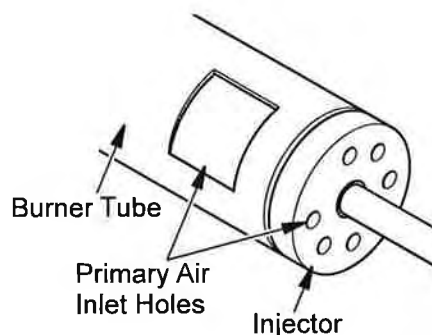

Figure 34 - Burner and Injector Holder
2. Inspect burner, pilot and primary air inlet holes on injector for dust and dirt (see Figure 34).